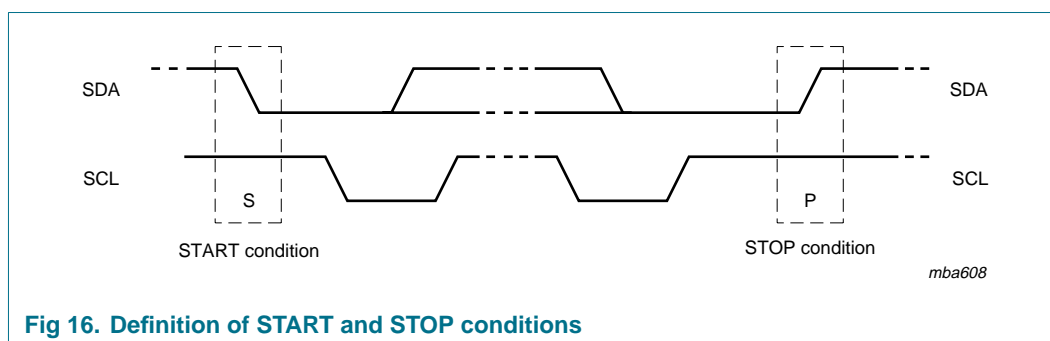

Fig 16. Definition of START and STOP conditions
Both data and clock lines remain HIGH when the bus is not busy. A HIGH-to-LOW transition of the data line while the clock is HIGH is defined as the START condition (S). A LOW-to-HIGH transition of the data line while the clock is HIGH is defined as the STOP condition (P) (see Figure 16).